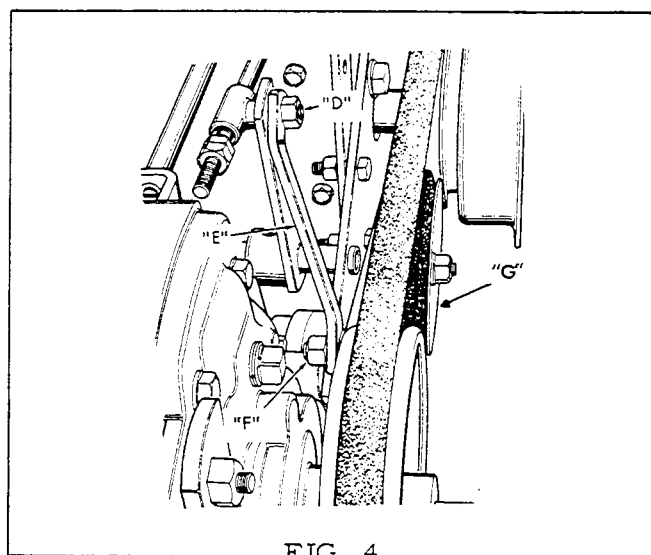

FIG. 4
3. Adjust nut (D) to permit clutch link (E) to pivot freely without excessive play. (See Fig. 4).
4. Adjust nut (F) to permit clutch link (E) to pivot freely without excessive play and check to see that nut has at least 1-1/2" of travel before touching transmission case. (See Fig. 4).
6. To compensate for belt stretch or other variances it may be necessary to move idler pulley (G) Fig. 4 into the alternate hole provided in its lever arm.